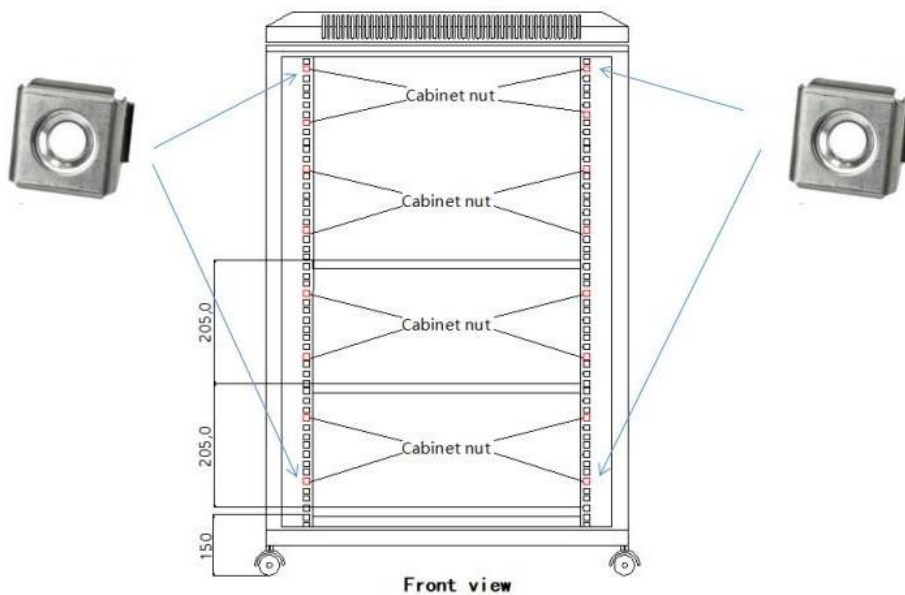

Figure 4
Step 3: Mark the position of the nut on the cabinet with the mounting bracket, and clamp the nut into the cabinet. See Figure4.